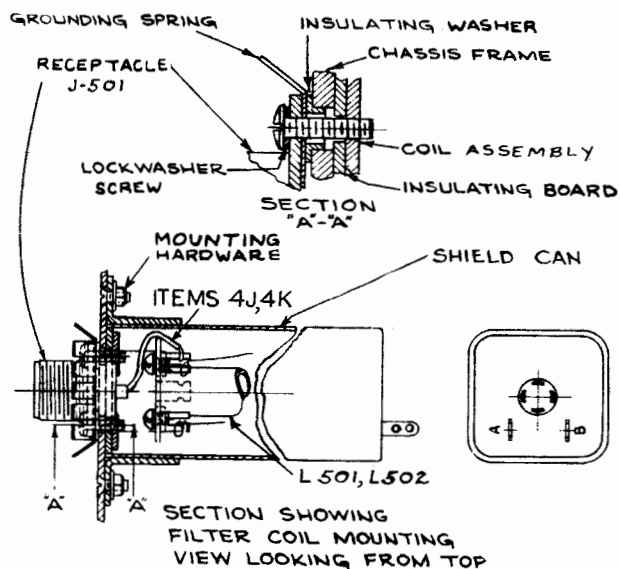
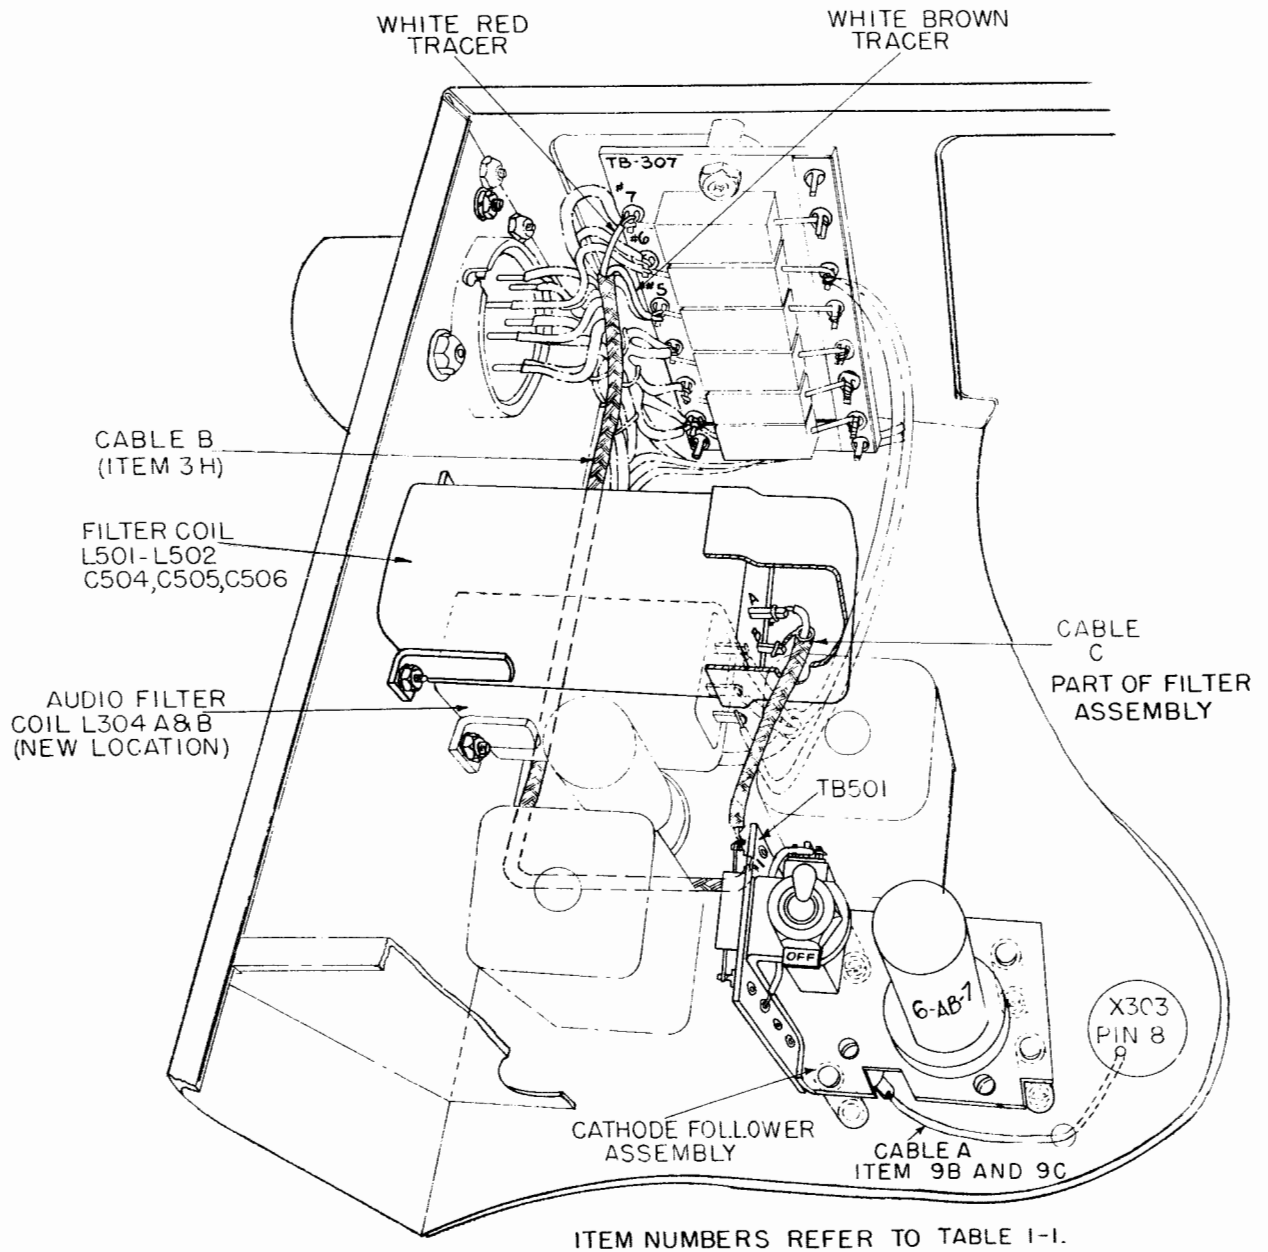

Figure 3-4. Low-Pass Filter Unit Mounting
Figure 3-5. Receiver Coupling Kit Installation on RBB/RBC Receivers
**f. LOW-PASS FILTER UNIT MOUNTING.**—See Figure 3-4 and see Table 1-1 for item references.
(1) Connect lead "D" (item 4-J) on Receptacles J501 (item 3D) as shown in Figure 3-4. Assemble the four insulating washers (item 4-D), grounding spring (item 3G), receptacle (item 3D), insulating board (item 3C), coil assembly (item 2), four lockwashers (item 4G), and four screws (item 4C) as shown in Figure 3-4. Add spaghetti (item 4K) over lead "D" and connect to terminals of coil assembly.
(2) Place the shield can (item 3A) over the above assembly.
(3) Fasten the shield can assembly (item 3A) to the chassis frame by two lock washers (item 4H), two nuts (item 4I), and two screws (item 4A).
(4) Place the shield can cover (item 3B) in position. Note: The cable "C" (see Figure 3-5) should be fed through the side hole.
g. CATHODE-FOLLOWER ASSEMBLY MOUNTING.—See Figure 3-5 and see Table 1-1 for item references.
(1) Mount the Cathode-Follower Assembly in position as shown in Figure 3-5.
(2) Fasten this assembly to the chassis by means of the four screws (item 4B) and four lock washers (item 4H). NOTE: Be sure to put the ground terminal in place as shown in Figure 3-5.
b. WIRING.—See Figures 3-5 and 7-41 and see Table 1-1 for item references.
(1) Connect lead "A" (part of item 1) to the Third I-F, X303, plate pin 8 (see Figure 3-5).
(2) Connect cable "B" (item 3H) to TB307. The white lead with red tracer is connected to terminal No. 7 and the white lead with brown tracer is connected to terminal No. 5.
(3) Connect cable "C" (part of item 2) to TB501, terminal No. 1, located on the Cathode-Follower Assembly.
(4) Turn S501 to ON and replace the receiver in the cabinet.
c. Mount the Side Bracket on the receiver side-apron, using two 10-32 x 3/8 screws (item 7A) No. 10 lock washers (item 7C), and No. 10 nuts (item 7E).
d. Mount the Receptacle (item 3D) on the Coil Assembly, using four 4-32 x 7/16 binder-head screws (item 4C). Slide the spaghetti (item 4K) over the conductor (item 4J) and solder between coil terminal and receptacle (see Figure 3-4). Do not use the Insulating Board (item 3C) or the Insulating Washers (item 4D).
e. Slide the Coil Assembly in the Shield Can (item 3A) and fasten the complete assembly to the Rear